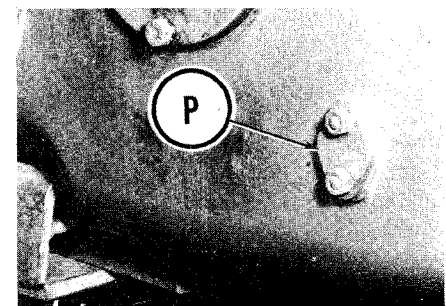
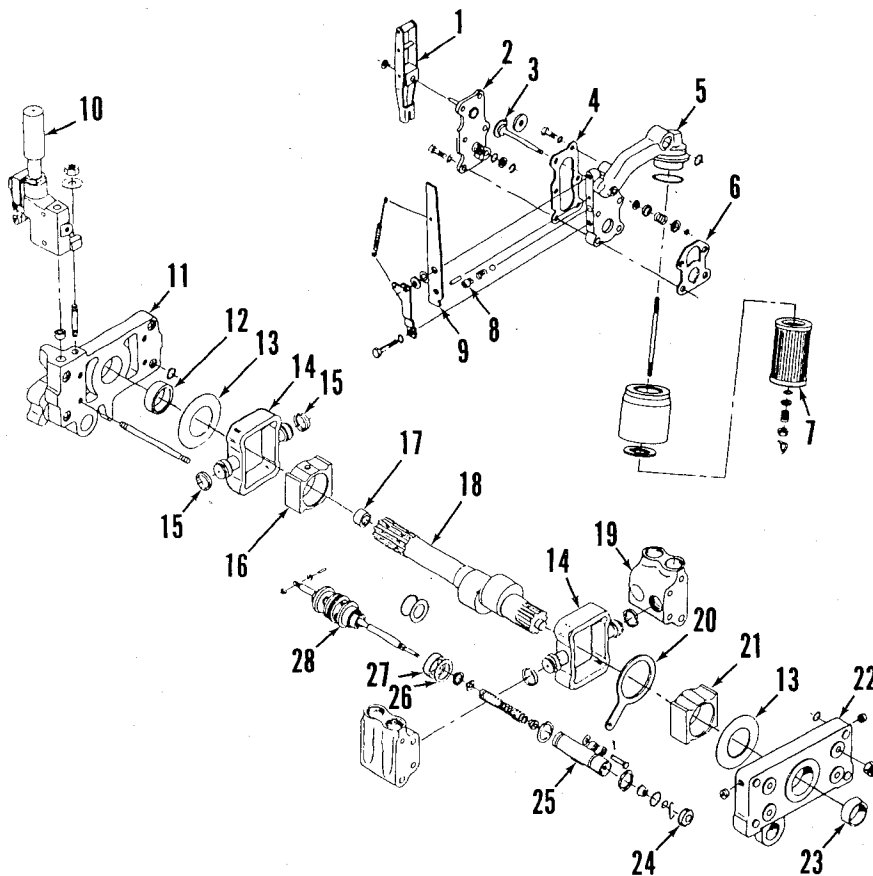

Fig. 228—Hydraulic pump positioning dowel pins (P) are located on each side of differential housing.
Fig. 237—Exploded view of main hydraulic pump. Thrust washers (13) are not used on early production pumps.
lapse and remove the drive shaft coupler and remove pto output shaft. Remove the dowel pin (P—Fig. 228) from each side of rear axle center housing, then lift hydraulic pump out through top opening.
On models equipped with ipto, Multi-Power and/or auxiliary hydraulics, drain the system and remove hydraulic lift cover as outlined in paragraph 207. Remove transmission top cover. Remove step plates and disconnect brake rods. Disconnect Multi-Power pressure line (if so equipped). Support transmission and differential housing separately, remove flange bolts and separate tractor at rear of transmission housing. Disconnect and remove auxiliary pump hydraulic lines leading to side cover and ipto clutch valve on models so equipped. Remove pump mounting dowel (P—Fig. 228)
To remove the main hydraulic pump on models not equipped with ipt, Multi-Power and/or auxiliary hydraulics, first drain hydraulic oil. Remove lift cover as outlined in paragraph 216. Remove the adjusting block and upper tube and spring from servo valve (10—Fig. 237). Collapse and remove the drive shaft coupler and remove pto output shaft. Remove dowel pins (P—Fig. 228) from each side of differential housing, then lift hydraulic pump out through top opening of housing.
nect pressure line at Multi-Power/ipto pump if so equipped. Support transmission housing and differential separately, remove retaining bolts and separate rear of tractor from transmission housing. Remove pump mounting dowels (P—Fig. 228) from each side of differential housing. Disconnect hydraulic pipes from the pumps and remove tube and spring from pump servo valve (10—Fig. 237). Slide pump assembly forward through front opening of differential housing.
Remove clip retaining control lever (1—Fig. 237), then slide control lever from control valve (28). Remove rollers and pin from end of control valve actuating rod. Remove filter assembly and intake housing (5) from pump.
229. VALVE CHAMBERS. Both valve chambers (19—Fig. 237) are identical and interchangeable, and each contains two sets of valve components (5 through 12—Fig. 240). To disassemble the chamber, remove snap ring (12) and thread a ¼ inch UNC bolt into plug (11) to provide leverage. Plug can be pulled by hand. A reseating reamer (Tool No. N-6007A) is available which dresses both seats in one bore at the same time. If tool is used, remove only enough metal to smooth the seats. All parts are available individually.
230. INTAKE HOUSING. The response control valve and nonreturn valve are contained in the intake housing (5—Fig. 237). Refer to Fig. 241 for an exploded view of intake housing and related parts.